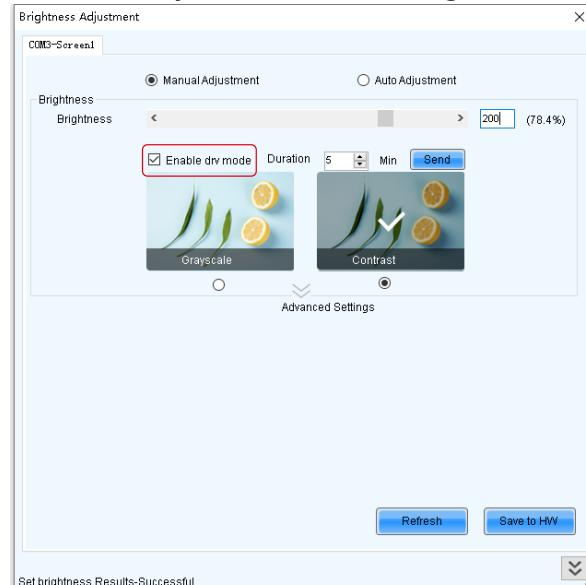

Figure 2-2
3. In brightness adjustment screen, click the Enable Dry mode checkbox. See Figure 2-2.